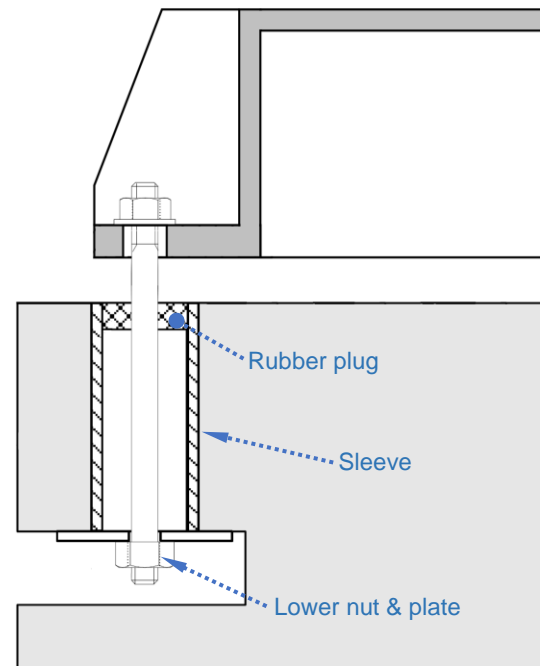

Figure 3b: Sleeve type bolt (pocket)
- An opening in the foundation to allow the lower bolt head to be held with a tool (Figure 3b).